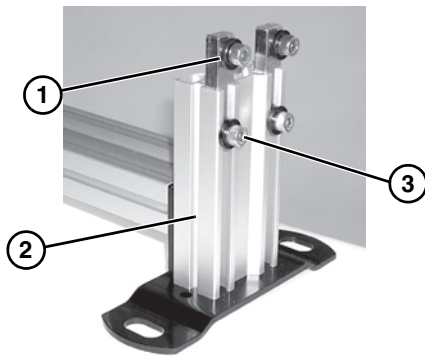
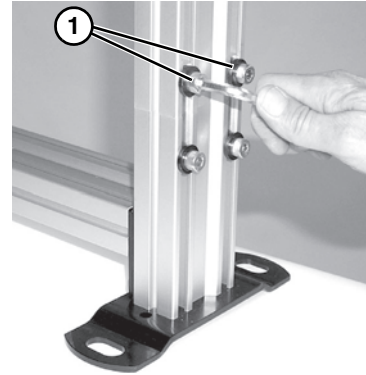

Figure 4
Figure 6
Failure to secure tier joint screws (Figure 4, item 3) and (Figure 6, item 1) may cause tube joining bar and conveyor sections to drop down, causing severe injury.
**TIGHTEN ALL TIER JOINT SCREWS (Figure 4, item 3) and (Figure 6, item 1) AFTER INSTALLATION.**
4. Install tube joining bar assembly (Figure 4, item 1) at top of leg on base assembly (Figure 4, item 2). Half of tube joining bar assembly must extend above leg, as shown. Tighten screw (Figure 4, item 3) to 130 in-lbs (15 Nm).
7. Tighten screws (Figure 6, item 1) to 130 in-lbs (15 Nm).